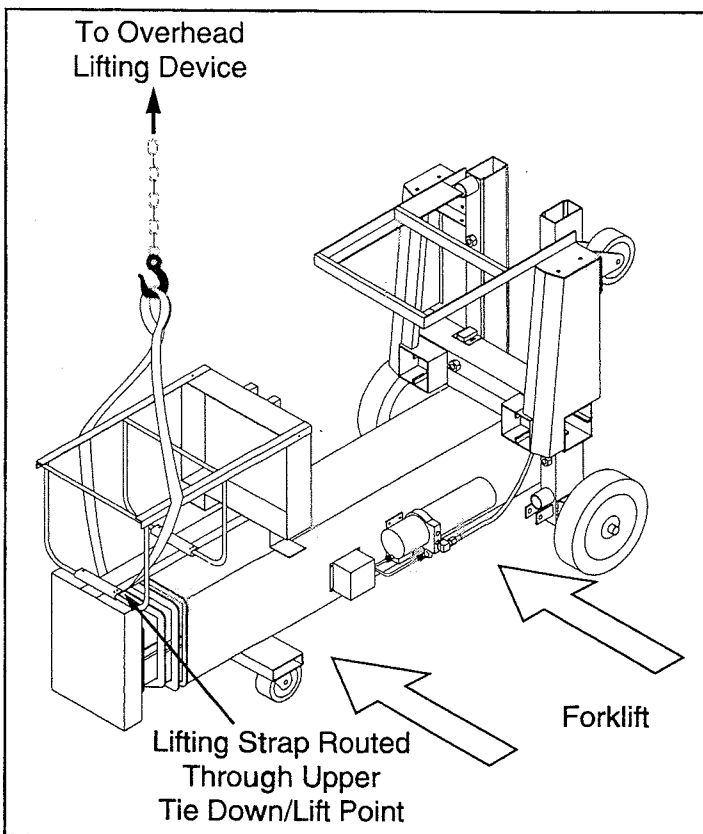

Figure 2-1: Lifting UL Lifts
5. Using a forklift raise the machine up far enough to remove the base of the crate (Figure 2-1). Lower the machine.
2. Disconnect the battery negative (-) lead from the battery terminal (Figure 2-1).
## 2.3 Lifting Work Platform (Figure 2-1)